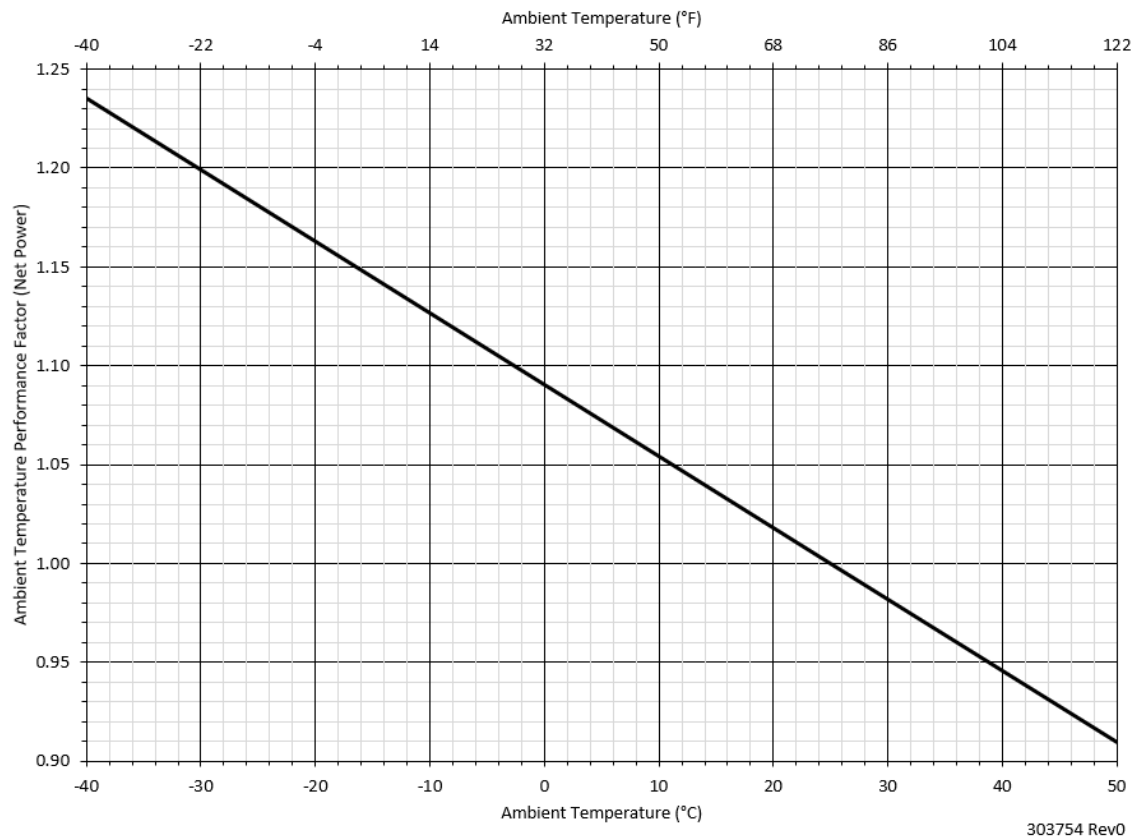
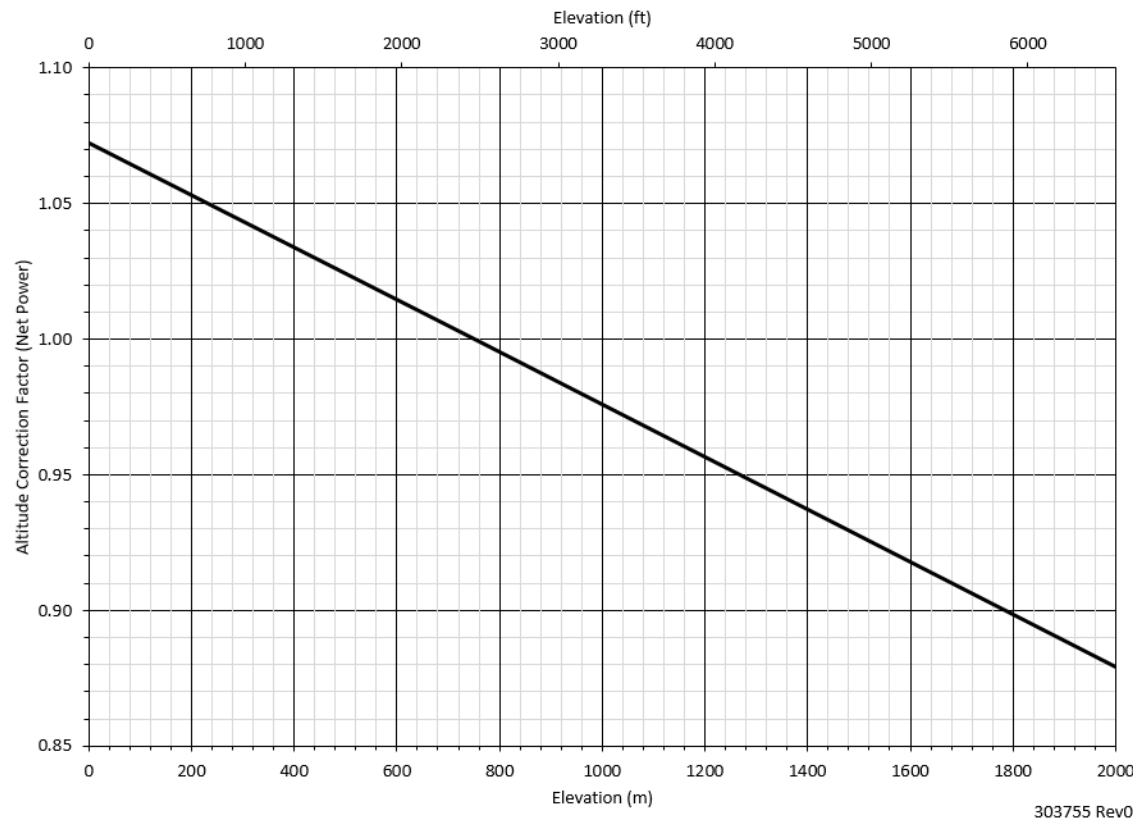

Figure 22 – Net Power Ambient Temperature Correction Factor
Figure 23 – Net Power Altitude Correction Factor
1. Determine correction factors for the site as described in Section 4.1, but use Figure 22 and Figure 23, based on worst case (highest) ambient temperature expected and altitude. For example, peak summer temperatures are expected to be 30°C [86°F], worst case temperature correction factor = 0.98. Combine this factor with your altitude factor by multiplying the 2 factor values.